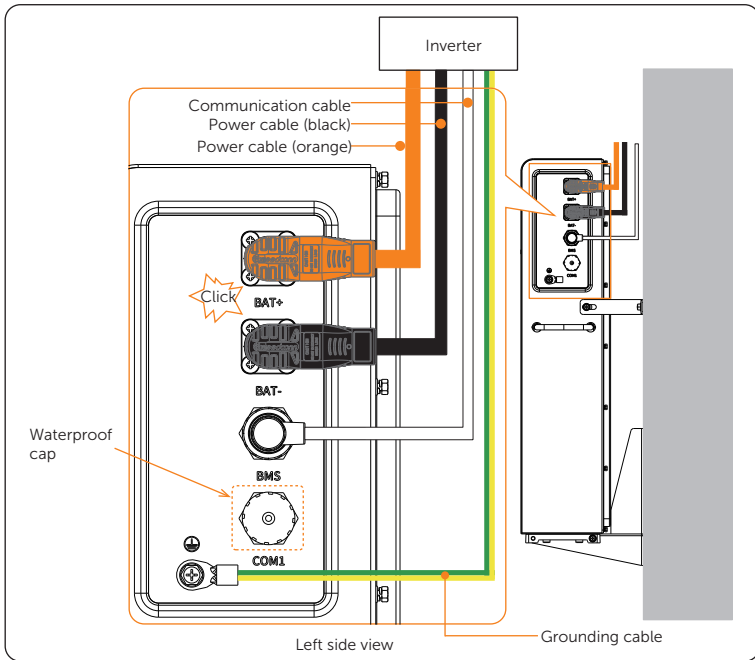

Figure 7-26 Cable connection of the left electrical connection area
- Make sure that power cables and communication cable are wired correctly, as shown in Figure 7-26. Failing to do so may cause severe damage to your battery pack.